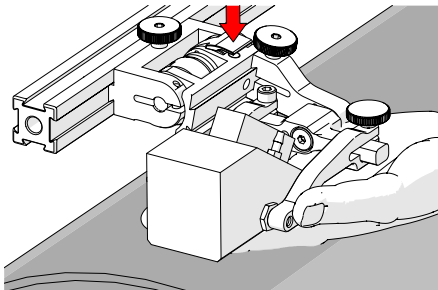

Fig. 197 - Lift and press latch button
3. Lift probe slightly and press latch button (Fig. 197) to apply spring pressure to the wedge.